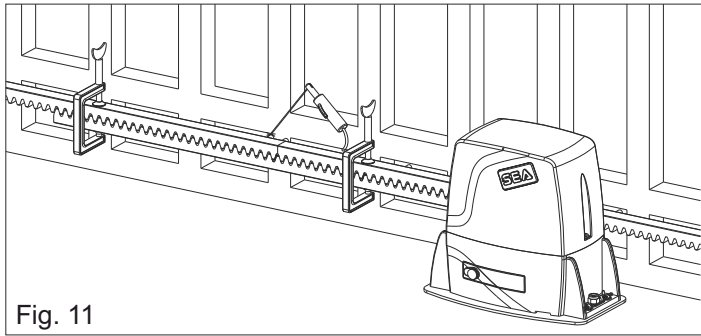

Fig. 11
**5.4.** Make sure that all the gear rack elements are perfectly aligned and correctly placed (the teeth must be in phase). It is suggested to oppose an element to two aligned elements as shown in Fig. 11;